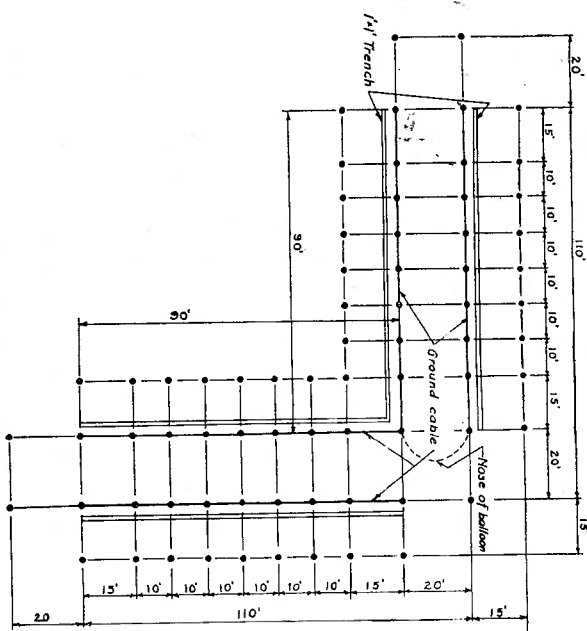

Figure 9.—Lay-out of L-shaped bed.
d. *L-shaped bed.*—This type bed is simple to construct, and allows the balloon to be bedded down in four directions. With this type bed, the balloon can be bedded down so its nose is always within at least 45° of the wind direction. For the lay-out of this type bed see figure 9.